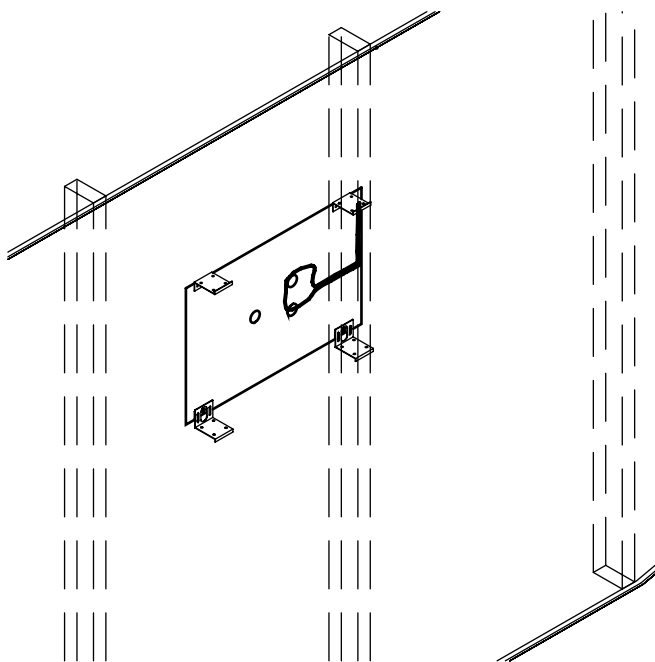

fig. 5
5. Locate the cardboard Installation Aid/Mounting Bracket. If the separation between the studs/joists is 21 1/2" (54.6 cm) or more, place the Installation Aid/Mounting Bracket with the short sides (14" - 35.6 cm.) parallel to the studs/joists. (please see fig. 5)